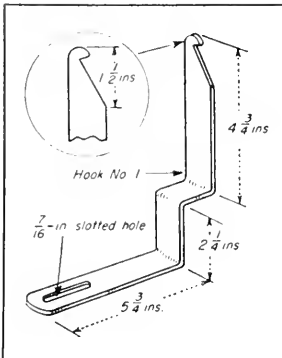

Fig. 1
1. Use cold-rolled flat-steel stock 12½ ins. long, ¾ in. wide, and ¼ in. thick to form a hook. (Drop-wire separator bars will do.) Bend the bar as shown in Fig. 1. Cut a hook to hold the filling end in one end of the material. Cut a 7/8-in. slot in the other end and smooth the surfaces with fine emery cloth.